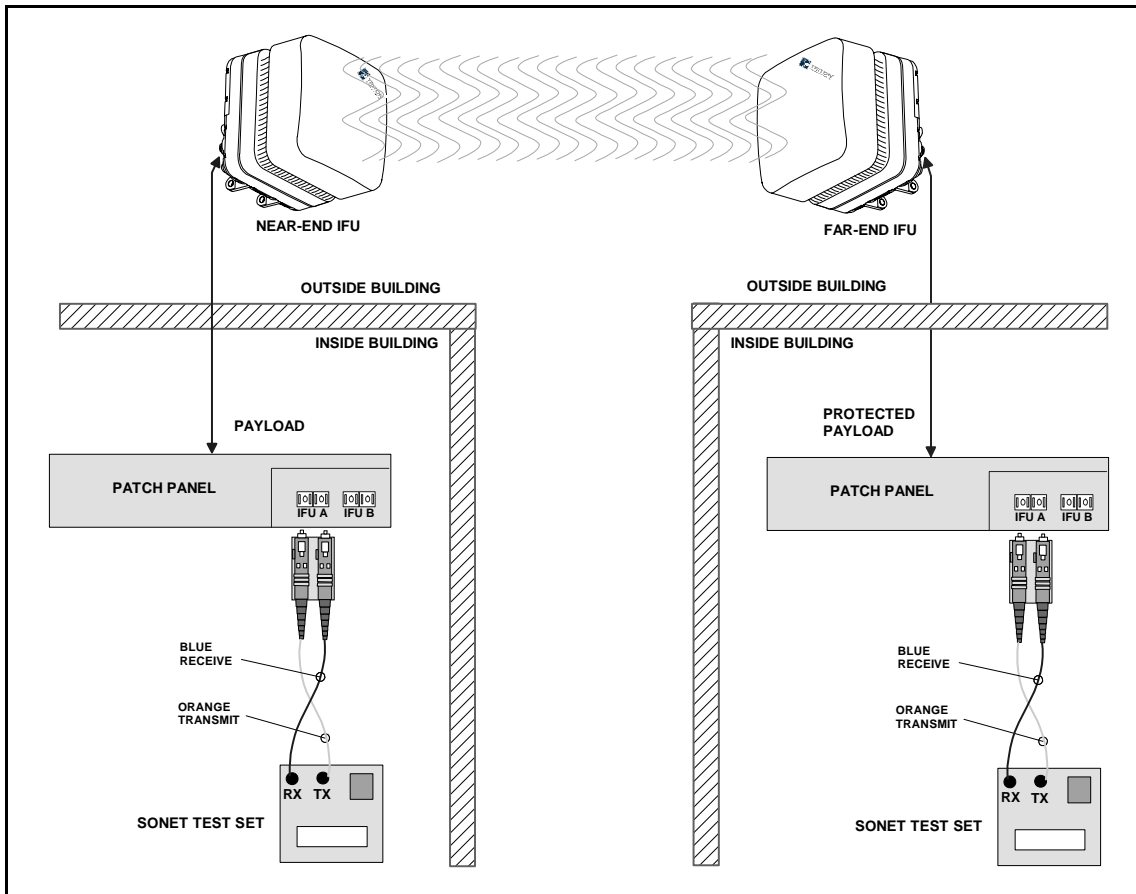

Figure 4-3. SONET Link Test Setup
- 1 Configure both SONET test sets for OC-3 testing and connect fiber patch cables as shown in Figure 4-3.
- 3 Configure both SONET test sets for DS-3 testing and connect fiber patch cables as shown in Figure 4-3.